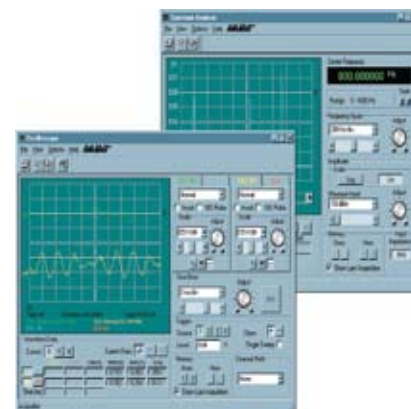

Fig. 4
- Observe real signals throughout the system in both the time and frequency domains using modern virtual instruments (see Figure 4).